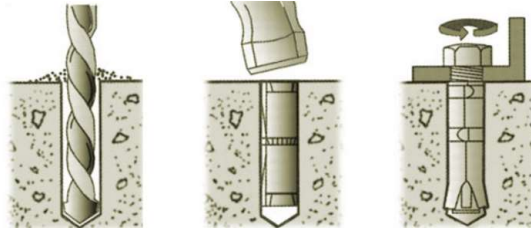

Figure 3-8 Drill holes, set Anchors, and tighten Assembling Bolts
Drill holes at the marked positions with a 10mm (0.4in.) drill and insert the **M8 Expansion Anchors** ① into the holes; fasten the **Mounting Bracket** ② with the **M8x25 Assembling Bolts** ③ in the accessory kit. **Figure 3-8** and **3-9**.